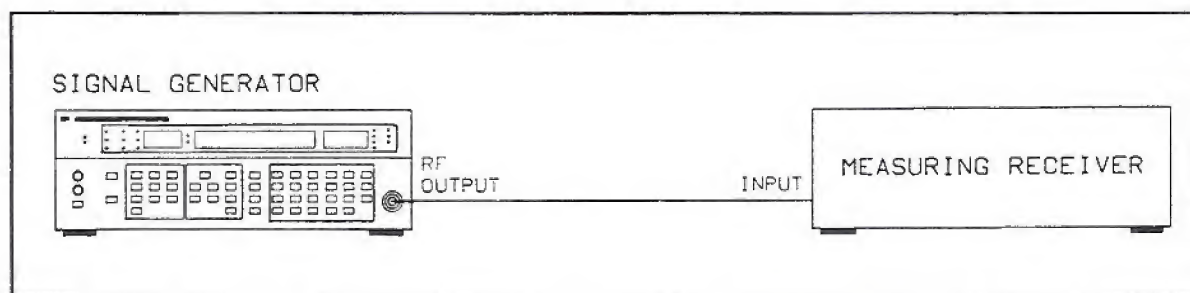

Figure 4-9. Modulation Test Setup
1. Connect the RF OUTPUT of the Signal Generator to the input of the measuring receiver as shown in Figure 4-9.